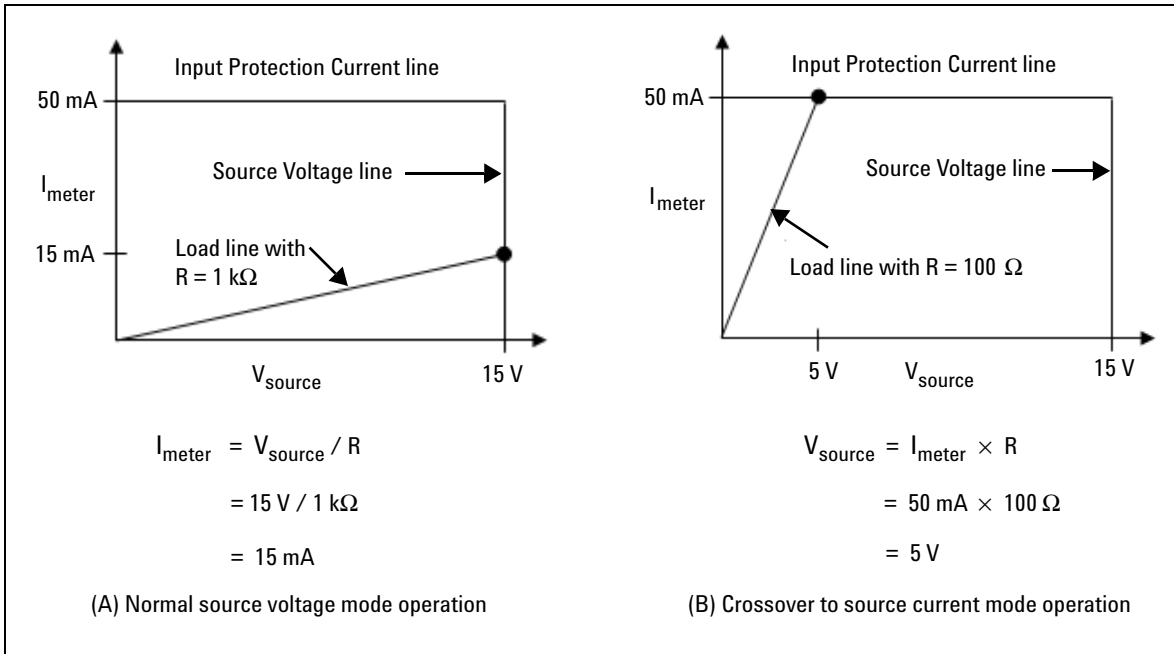

Figure 2-6 Source voltage operation
Figure 2-6 shows the operation with different resistive loads, which are 1 k Ω and 100 Ω respectively. In these examples, the U2722A/U2723A is having a source voltage of 15 V and an input protection current of 50 mA.
In **Figure 2-6 (A)**, the U2722A/U2723A is having a source voltage of 15 V to a 1 kΩ load and it is measuring 15 mA. As long as the DUT load line intersects the source voltage line, it will be in source voltage mode and the voltage will maintain at 15 V. However in **Figure 2-6 (B)**, it shows that when the resistance of the load decreases to 100 Ω, the load line intersects the input protection current line. This forces the U2722A/U2723A to go into source current mode. Since the input protection current setting is set at 50 mA and the U2722A/U2723A cannot operate out of the boundary, the voltage changes to 5 V instead.